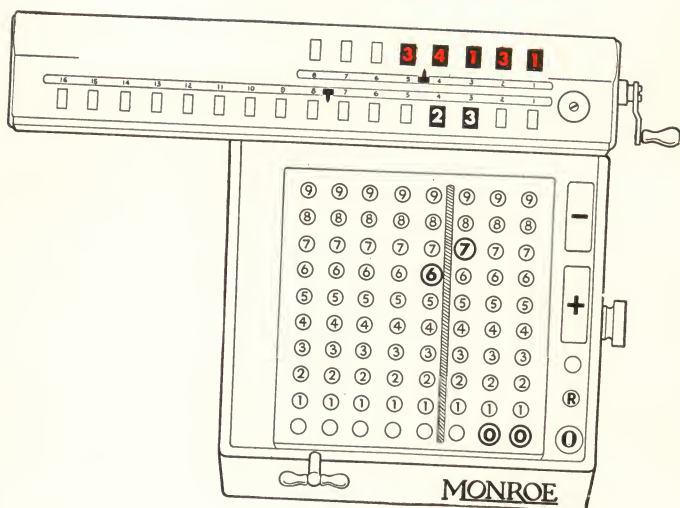

Figure 10
**Step 8**—The result will register automatically in red in the upper dials in correct position with relation to the decimal point which was previously set, and the final result will appear as in Figure 10. The .0002300 shown in the lower dials is the remainder.